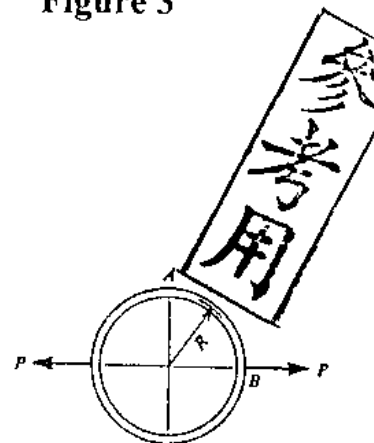

Figure 6
(6) A thin circular ring of radius R is subjected to the action of two equal and opposite forces P acting along a diameter as shown in Figure 6. Find the bending moments in the ring at points A and B, considering only the effects of flexural deformations. (15%)